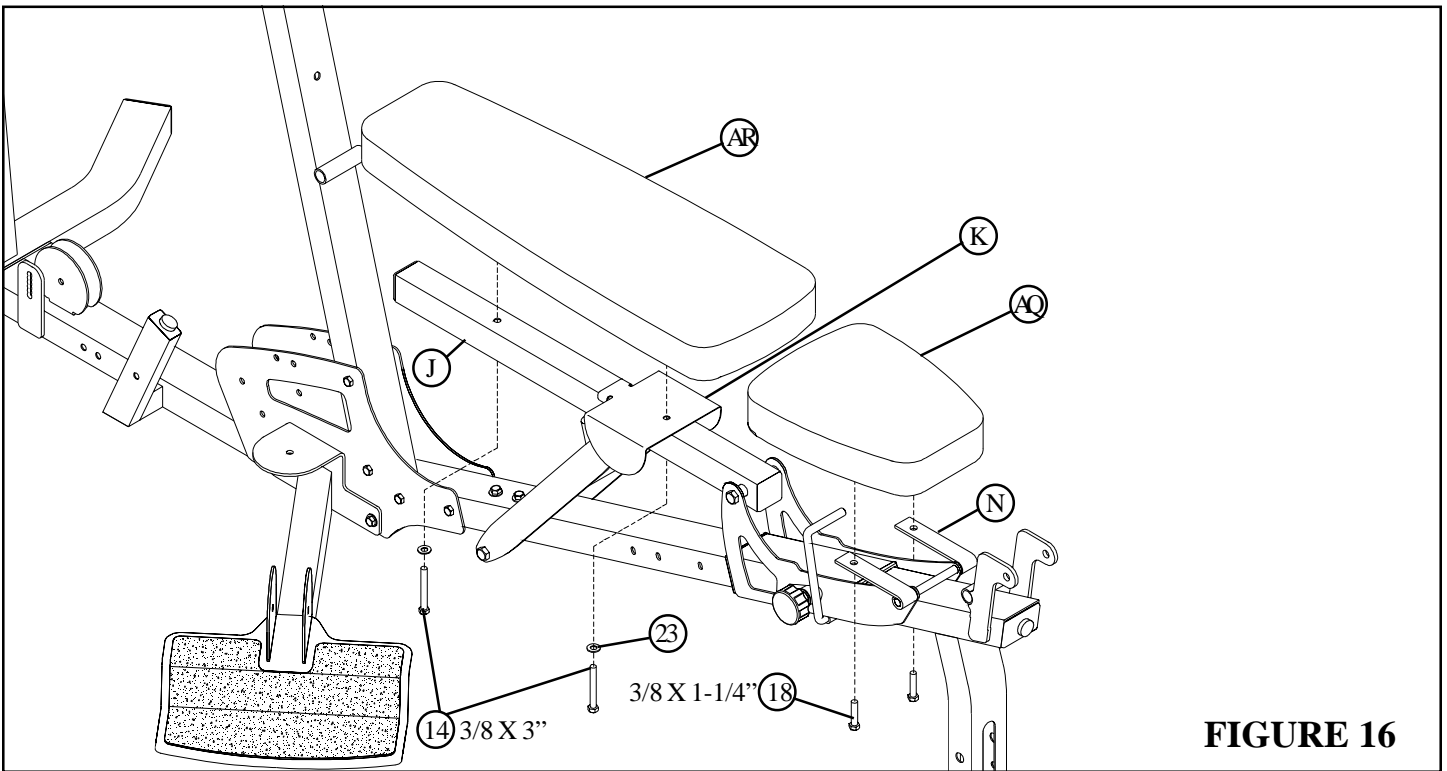

FIGURE 16
- **SECURELY** assemble the BENCH SEAT PAD (AQ) to the HINGE TABS (N) using two 3/8 X 1" BOLTS (18) See FIGURE 16.
- **SECURELY** assemble the BENCH BACK PAD (AR) to the BENCH BRACKET (K) and the BACK TUBE (J) using two 3/8 X 3" BOLTS (14) and two 3/8" WASHERS (23). See FIGURE 16.